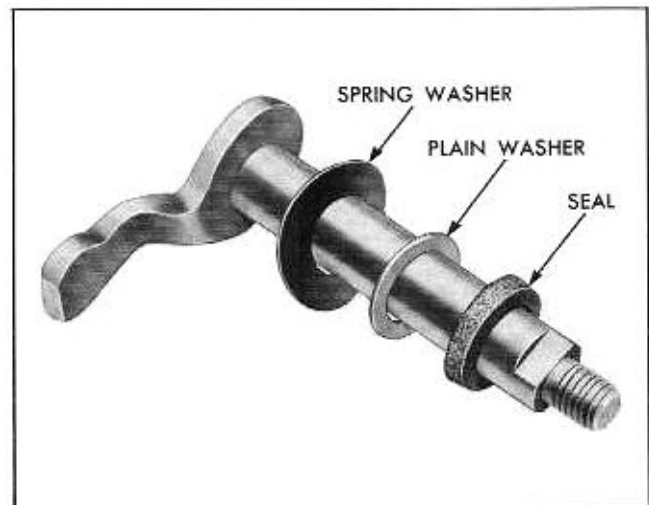

Fig. 7-36 Inner Selector Lever Shaft Assembly
4. Place spring washer, flat washer, and oil seal on selector lever shaft in order named, with crowned side of spring washer against flat washer (See Fig. 7-36). Apply lubriplate to shaft and assemble into transmission case. Then install outer selector lever.